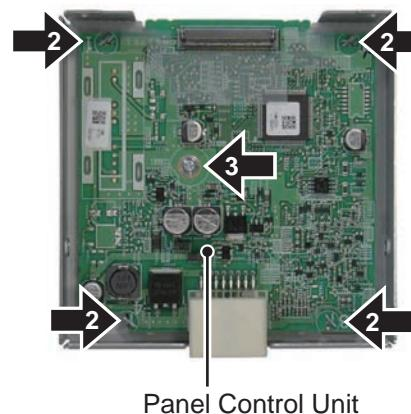

Fig.18
- 2 Straighten the tabs at four locations indicated.(Fig.18)
- 3 Remove the screw and then remove the Panel Control Unit. (Fig.18)